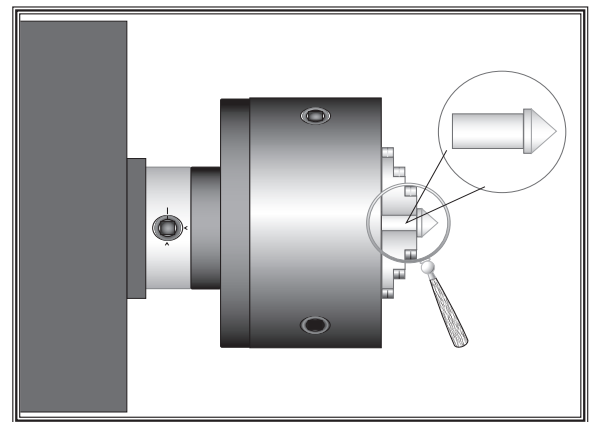

Figure 27. Tailstock centering dead center.
4. Using the other piece of stock, make a dead center by turning a shoulder to make a shank. Flip the piece over in the chuck and turn a 60° point (see **Figure 27**).